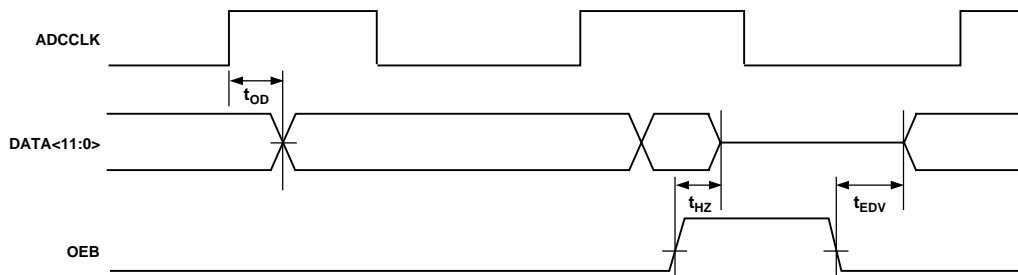

Figure 11. Digital Output Timing
**DOUT<n:0>**—The DOUT data bus is bidirectional. CMOS compatible digital data is available as an output on the DOUT bus. Data is coded in straight binary format. When CSB and either WRB or RDB are applied to the AD9807/AD9805, the DOUT data bus becomes an input/output port for the register data, shown as MPU<7:0>. The timing and latency for the DOUT data bus are given in Figures 11 through 15.